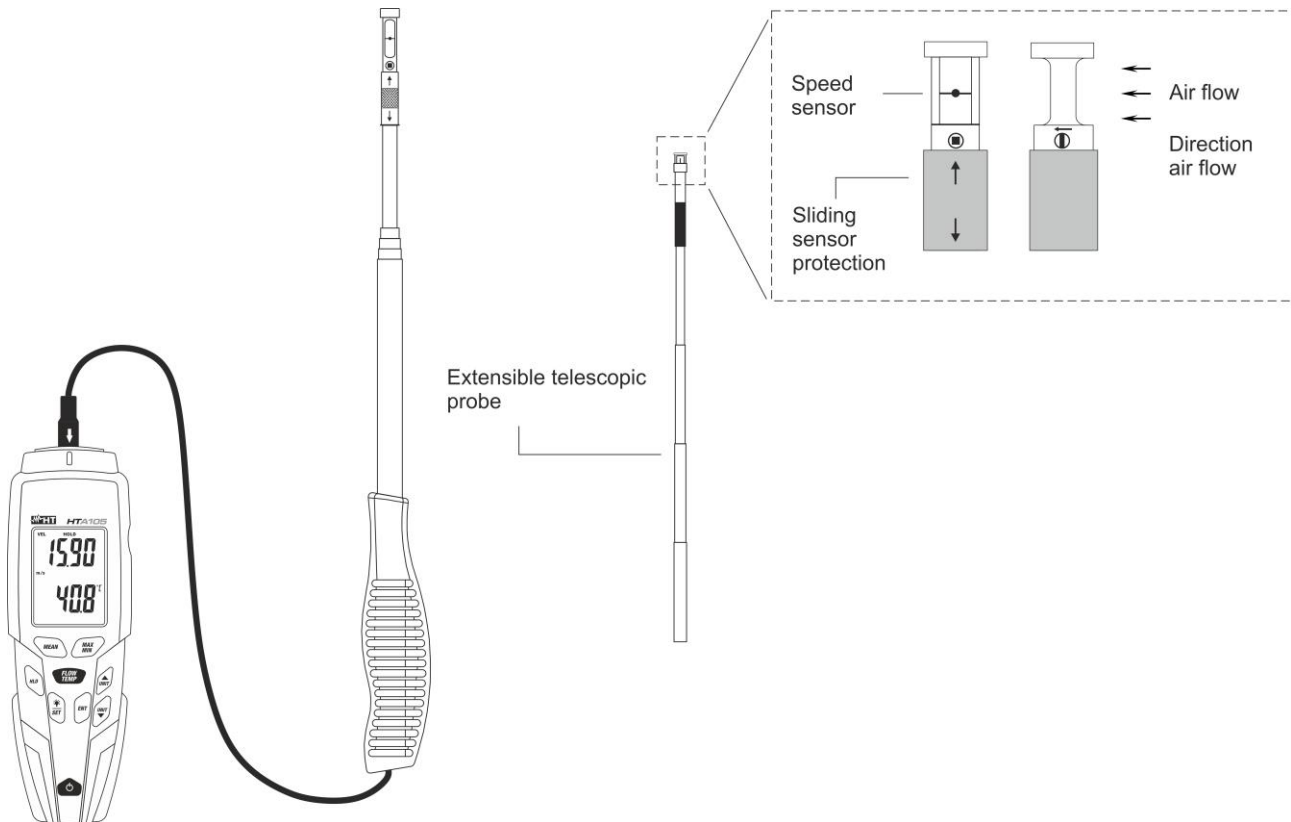

Fig. 7: Measurement of air speed and temperature
1. Insert the external probe on the top side by means of the relevant terminal (see Fig. 1 – part 1). Pay attention to the arrow found on the connector of the probe (see Fig. 7), which must be directed towards the front side of the instrument
5. If necessary, expand the telescopic probe and position the air speed sensor in a parallel direction to the air flow as indicated by the arrow found on the top of the probe itself (see Fig. 7).
8. If necessary, expand the telescopic probe and position the air speed sensor in a parallel direction to the air flow as indicated by the arrow found on the top of the probe itself (see Fig. 7).